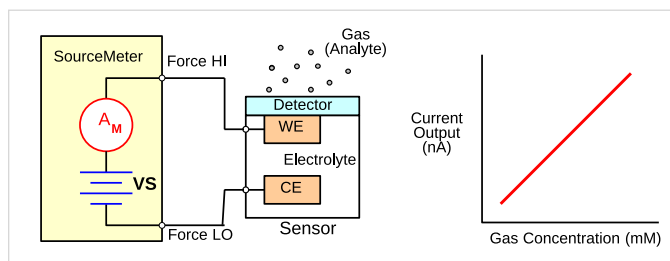

Figure 8. A SourceMeter SMU instrument measuring the current output of a 2-electrode amperometric gas sensor.
Figure 8 shows a simple amperometric gas sensor. When a gas comes in contact with the working electrode (WE) a chemical reaction occurs, either oxidation or reduction, depending on the sensor. In an amperometric sensor, current flows between the counter electrode (CE) and the working electrode (WE). The current output, which is related to the gas concentration, is measured by a sensitive ammeter. If necessary, a third electrode, a reference electrode, can be added to the sensor to apply a potential.